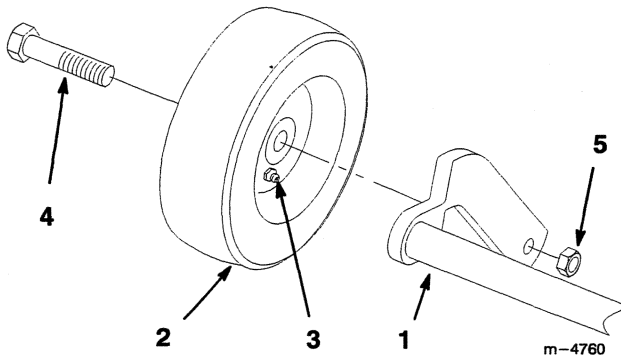

Figure 1
1. Attach gage wheels to the outside of arms on rear carrier assembly. Grease fitting on wheel must face in (Fig. 1).
2. Secure with shoulder bolt and 3/8" lock nut, with internal locking patch on threads (Fig. 1).